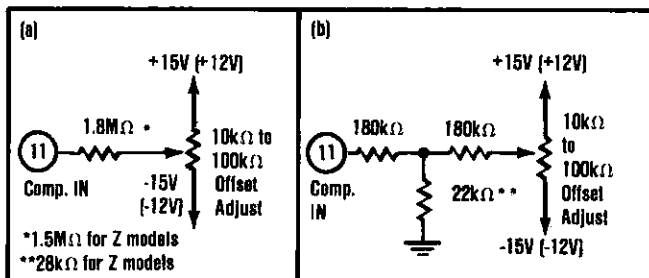

FIGURE 5. Two Methods of Connecting Optional Offset Adjust with a 0.4% of FSR Range Adjustment.
Gain and Offset errors may be trimmed to zero using external gain and offset trim potentiometers connected to the ADC80 as shown in Figures 5 and 6. Multiturn potentiometers with  $100\text{ppm}/^\circ\text{C}$  or better TCR's are recommended for maximum drift over temperature and time. These pots may be any value from  $10\text{k}\Omega$  to  $100\text{k}\Omega$ . All resistors should be 20% carbon or better. Pin 16 (Gain Adjust) may be left open if no external adjustment is required.
**OFFSET** - Connect the Offset potentiometer as shown in Figure 5. Sweep the input through the end point transition